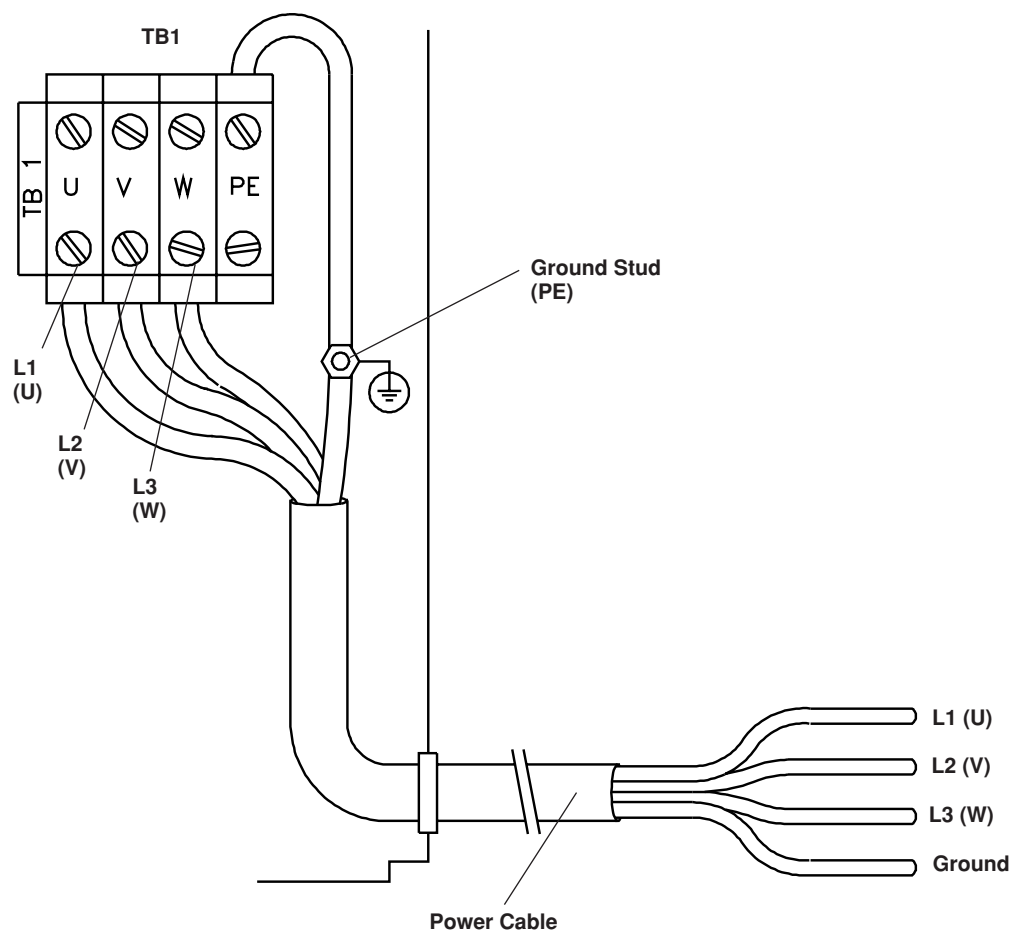

Figure 5-1 Power Supply Input Power Measurement Location
5. For a 200, 208, 240, 480, or 600- volt power supply measure the voltage at TB1 between L1 (U), L2 (V) and L3 (W). Refer to Figure 5-1 for detail of TB1. Also refer to wiring diagram 013-4-272 supplied with manual, if required. The voltage between any two of the three points at TB1 should be equal to the supply voltage (200, 208, 240, 480, or 600 VAC). If there is a problem at this point, disconnect main power and check connections, power cable, and fuses or circuit breaker at line disconnect switch. Repair and/or replace defective component(s) if necessary.